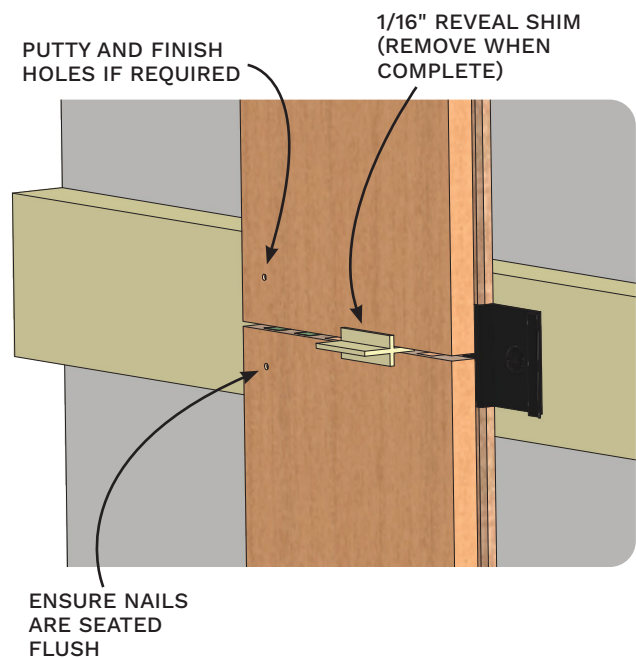

Figure 12
- Secure the opposite side of the plank with an Open Reveal Clip (see Figure 12).
- Secure clip with a #8 x 5/8" pan head of HWH SMS Fastener (see Figure 12).
- Use a matching putty and touch-up finish to dress the holes left from finish nails (see Figure 12).